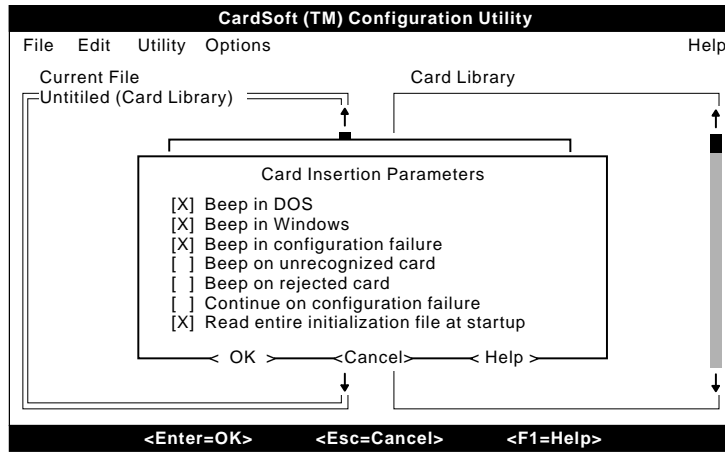

Figure B-3. Card Insertion Parameters Menu
- 4 When you are finished configuring the port information for the card, select **Card Insertion Parameters**. The Card Insertion Parameters screen appears (see Figure B-3).